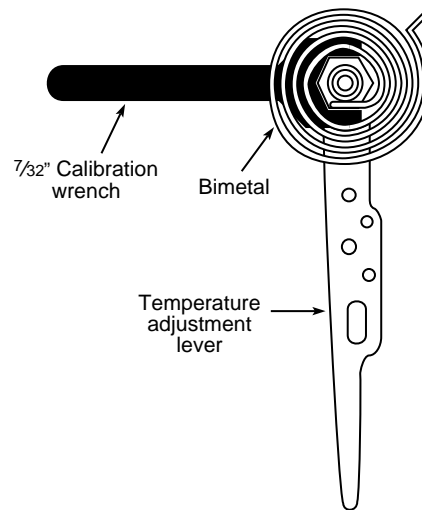

Figure 7. Calibrating thermostat
3. Remove thermostat cover. Slip $\frac{7}{32}$ " wrench onto hex nut beneath bimetal. While holding temperature adjustment lever stationary, turn hex nut clockwise until mercury shifts to the right end of the tube (see fig. 7).
7. Slip $\frac{7}{32}$ " wrench onto hex nut. While holding temperature adjustment lever stationary, turn hex nut counter-clockwise until mercury just barely shifts to the left end of the tube (see fig. 7).